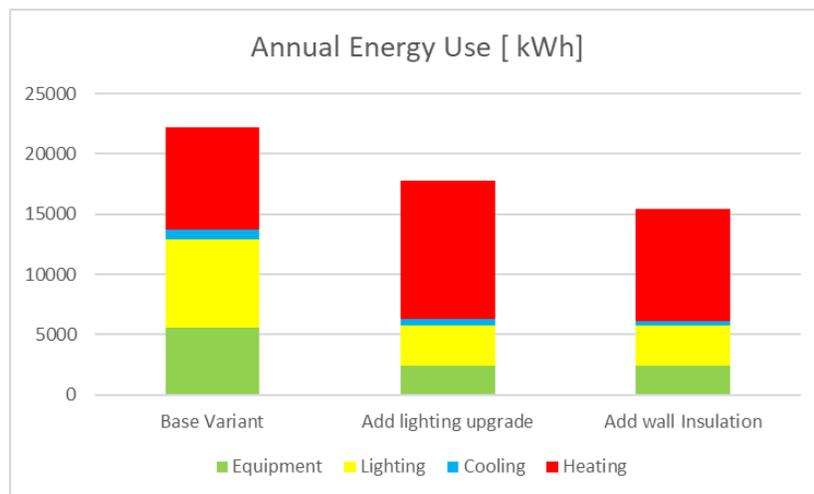

Figure 2: Annual energy use for the baseline energy use and two upgrades
7. Analyze results: Investigate the monthly loads of your building design for heating, cooling, equipment and lighting. Note down the annual energy uses for the base variant for your building. An example Excel template is provided with the assignment (Figure 2).